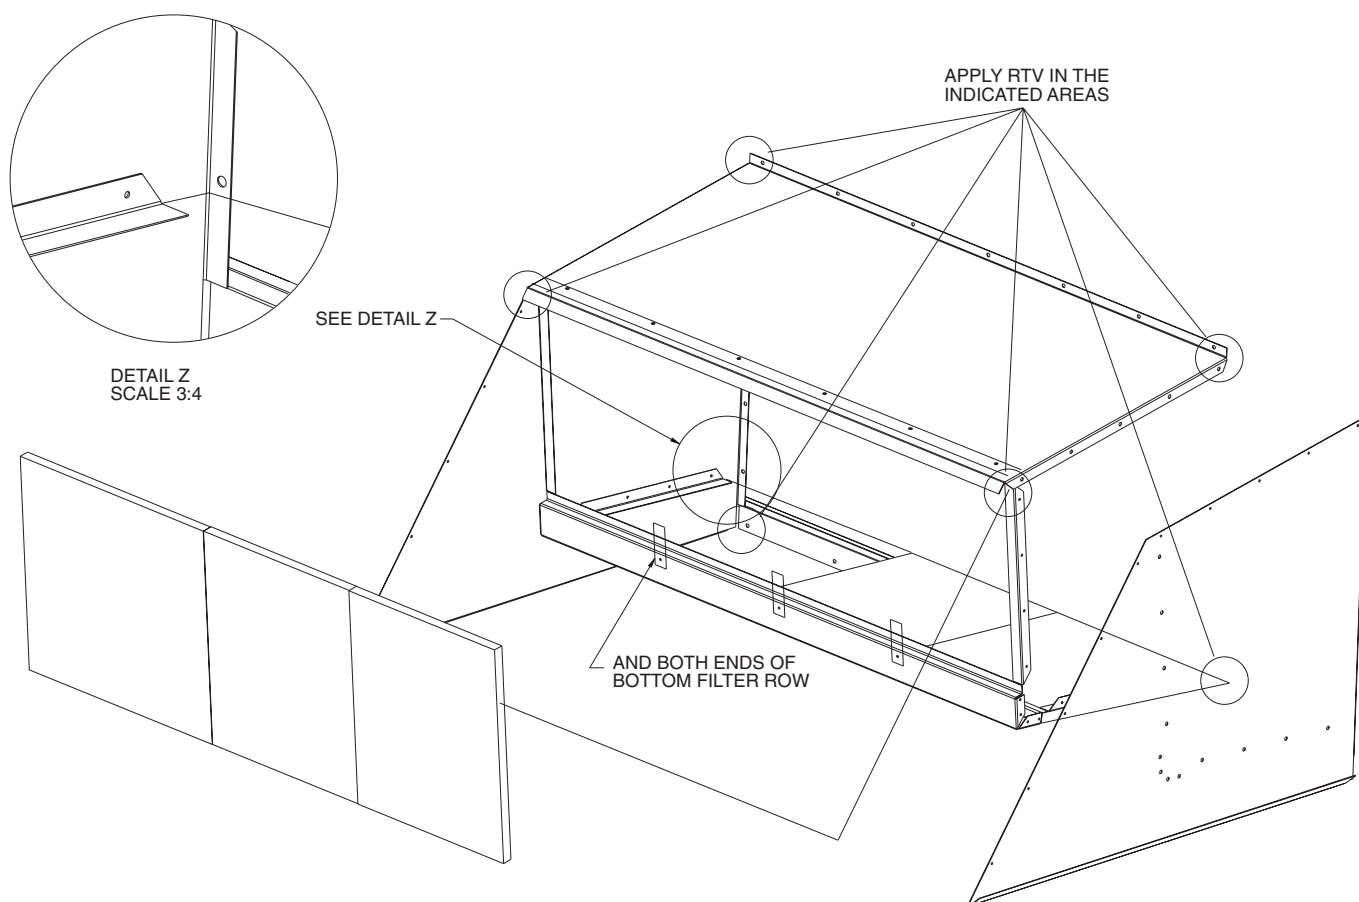

Fig. 54 — Large Economizer Hood Assembly
INSTALL LARGE HOODS — Large hoods are shipped disassembled in the economizer section of the unit behind the large economizer hood shipping cover. See Fig. 54 for assembly details for large economizer hoods. To install the large economizer hoods, perform the following procedure:
16. Apply RTV to 6 places shown in Fig. 54.